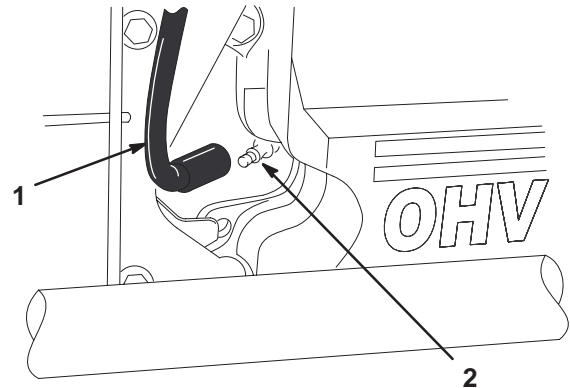

Figure 27
- Pull the wire(s) off the spark plug(s) (Fig. 27). Clean around the spark plug(s) to prevent dirt from falling into the engine and potentially causing damage.
3. Push the wire(s) onto the spark plug(s) (Fig. 27).